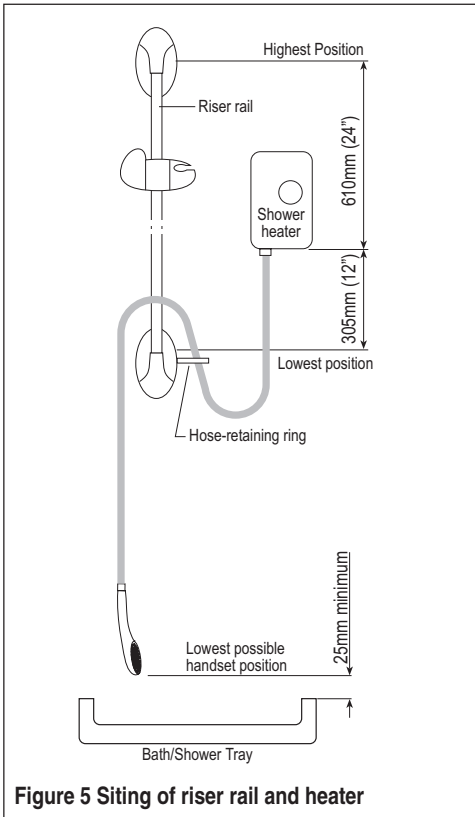

Figure 5 Siting of riser rail and heater
3.7 Position the riser rail close to the heater, not necessarily on the same wall (but bear in mind paragraph 3.5) so that in its highest parked position, the handset is not more than 610mm (24") above the bottom of the heater, and in its lowest position it is no lower than 305mm (12") below the heater - see Fig. 5.
1. Fit a hose-restraining ring - see Fig. 5.